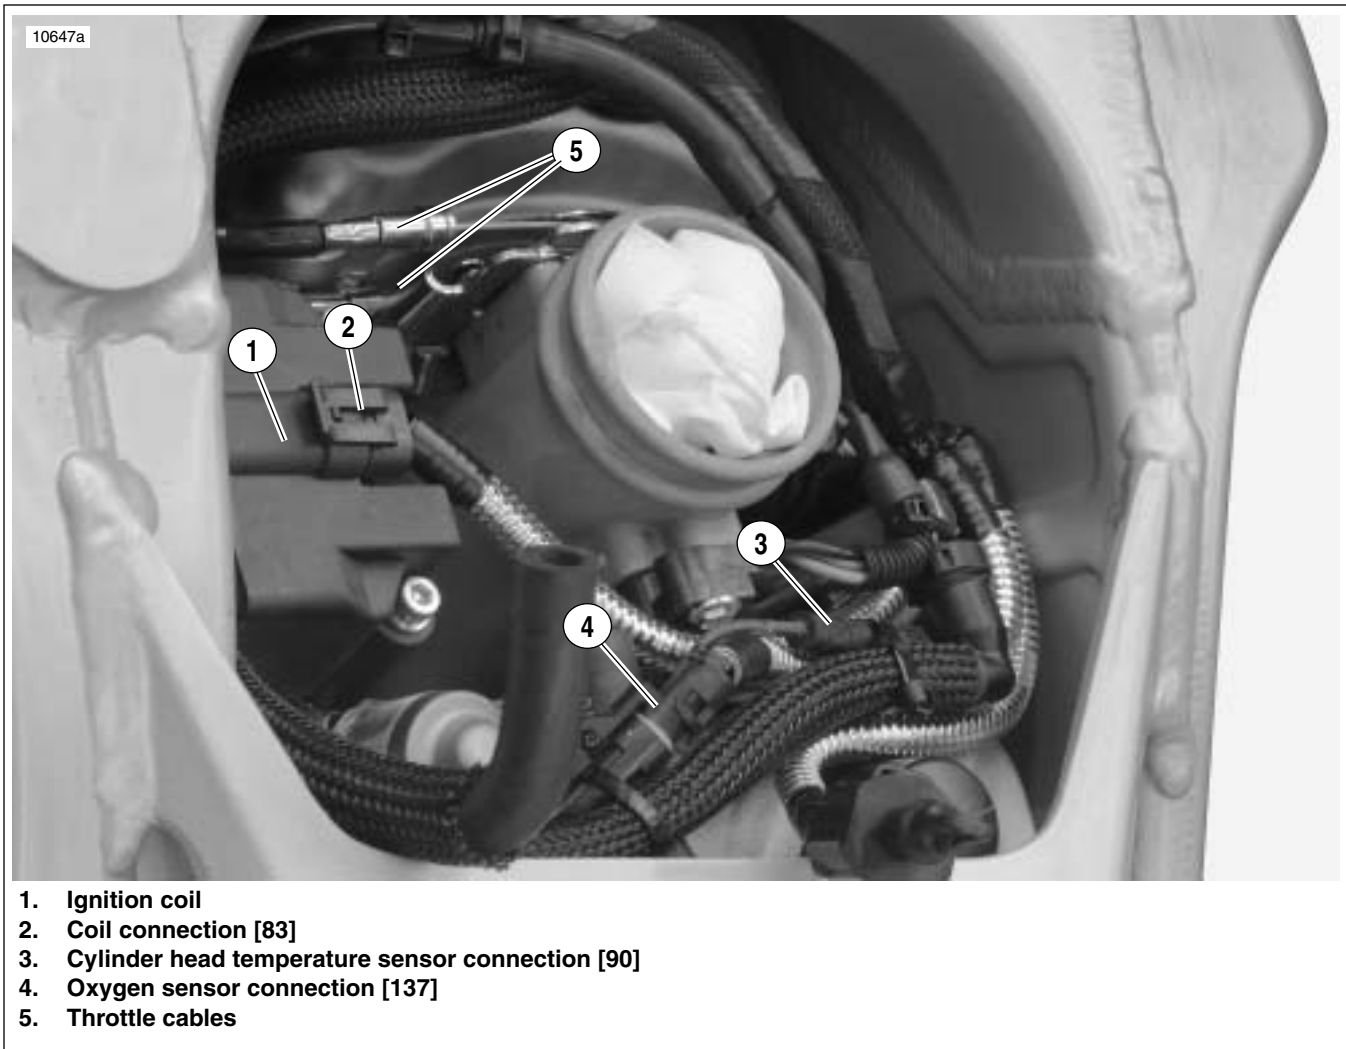

Figure 3-15. Electrical Connections and Throttle Cables (Typical)
9. See Figure 3-15. Disconnect the ignition coil (2) and remove.
- a. Temperature sensor [90] (3).
- b. Oxygen sensor [137] (4).